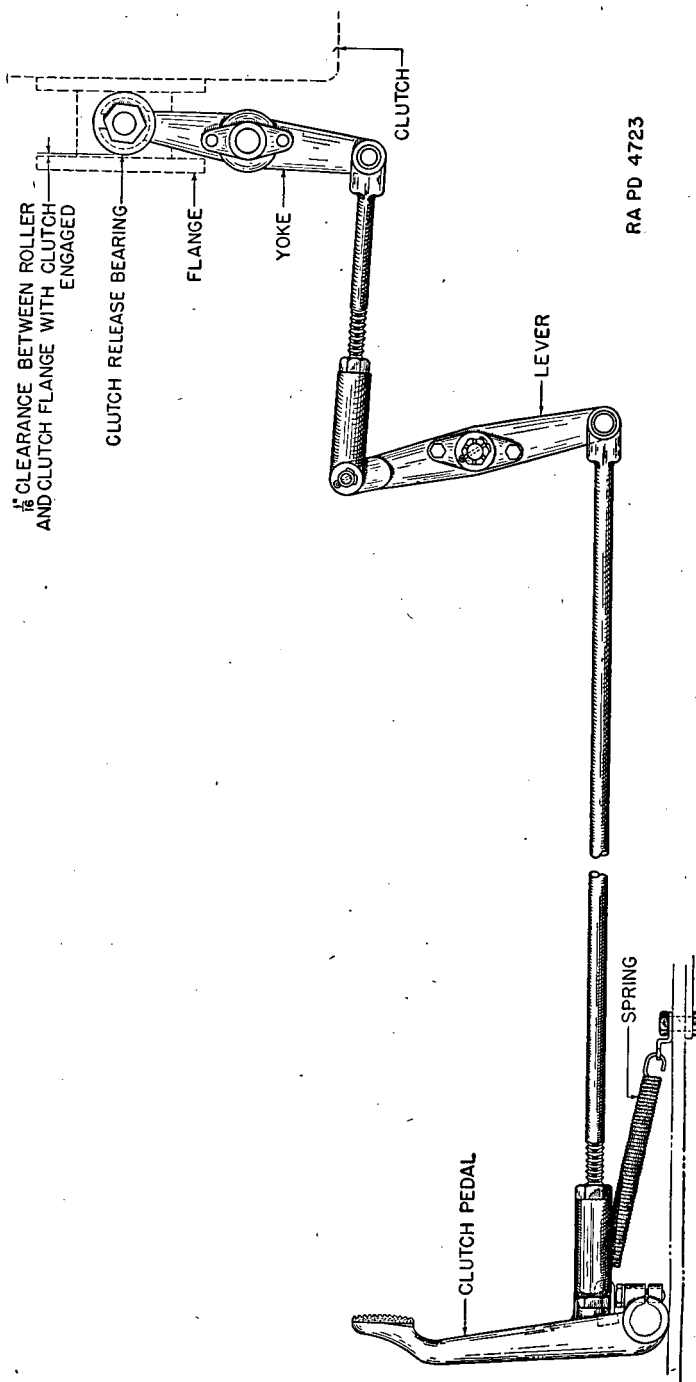

FIGURE 53.—Adjustment of clutch control linkage.
b. Adjustments.—Adjust the clutch rod (fig. 53) to obtain at least $\frac{1}{2}$ -inch free travel on the clutch pedal with from $\frac{1}{16}$ -inch to $\frac{1}{8}$ -inch clearance between the clutch release bearings and the flange with the clutch engaged.